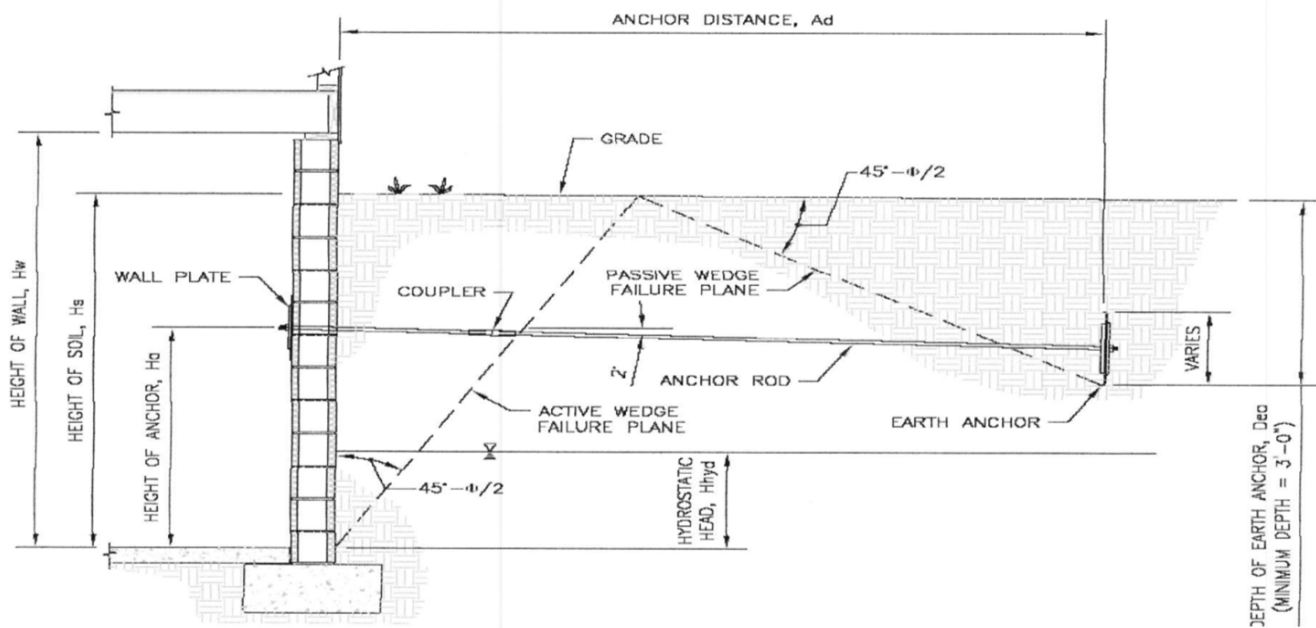

FIGURE 2—TYPICAL WALL ANCHOR ASSEMBLY
4.2 Installation: Grip-Tite® Wall Anchor System is installed by inserting a steel rod through the wall into the outside earth. A soil anchor is then attached to the steel rod through a vertical hole in the ground. An interior wall plate then secures the rod inside the foundation wall, as illustrated in Figure 2. Table 4 lists specific wall heights and soil variability references and can be used together with the soil test report to determine important installation information such as wall plate/anchor rod height, allowable anchor spacing, distance and depth, and allowable lateral bearing capacity.